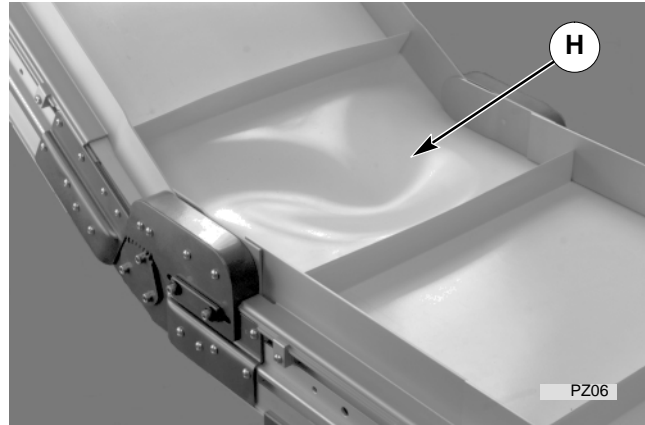

Figure 21: Conveyor Belt Buckling Caused by Over-tensioning
5. Rotate the pinion to extend the tensioning end, and apply a sufficient tension to eliminate drive pulley slippage. But, do not apply too much tension to cause the conveyor belt to bow or buckle (H of Figure 21) or otherwise to pop-out from under the guide rollers on either side of the conveyor, in the area of the transition modules.